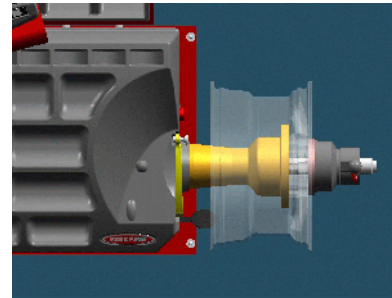

Fig. 29: first spin, rim only
5.1.2 Measure the unbalance of the rim only (see the fig. 29).